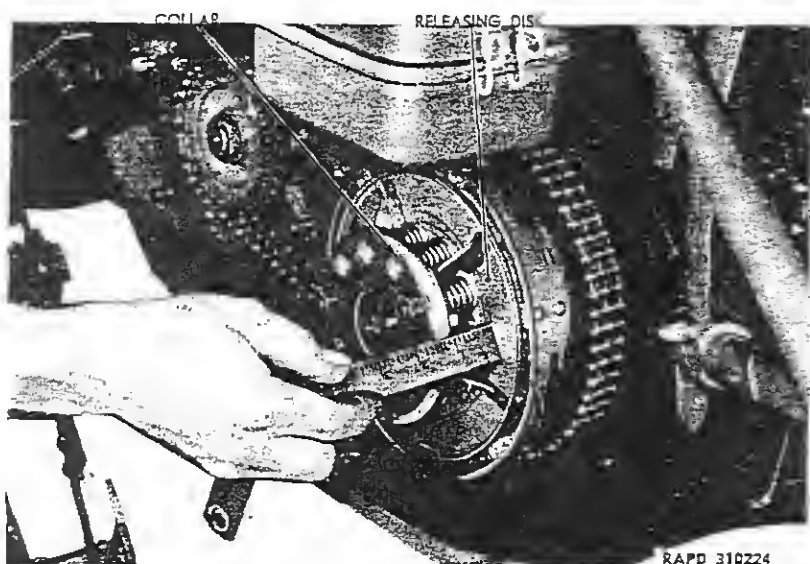

Figure 27—Measuring Distance Between Spring Collar and Disk
(4) After clutch spring tension adjustment is made, bend up nut lock lips to secure adjusting nuts. Replace any broken or badly damaged locks.
(5) When a new clutch is originally assembled and adjusted, the distance from the inner edge of shoulder on spring collar to face of outer (releasing) disk is $1\frac{3}{32}$ inches (fig. 27). In any case, do not tighten the three adjusting nuts to the point where inner edge of shoulder of spring collar is closer than $\frac{7}{8}$ inch to face of outer (releasing) disk. If compressed more, clutch probably cannot be fully disengaged.
(4) Engage remaining steel disk with shell splines with "OUT" side facing outward.
(5) Install "sprung" (one side lined) steel disk, lined side inward, on clutch hub studs.
(6) It will be noted that the three long, threaded-end, clutch hub studs are not spaced an equal distance apart. It will also be noted that the three holes (keyhole shaped) in the spring collar are not spaced equidistantly. Therefore, when installing releasing disk and spring assembly on clutch hub studs, the three threaded studs and holes in spring collar must be aligned. Install assembly on studs, replace the three nut locks, replace the three adjusting nuts, and tighten all three evenly until the distance between shoulder of spring collar and face of releasing disk is $1\frac{1}{2}$ inch (fig. 27).
(7) Remove the large washer and replace push rod adjusting screw lock nut. Do not attempt adjustment of clutch release lever and push rod adjusting screw until outer front chain guard and foot-board have been installed.